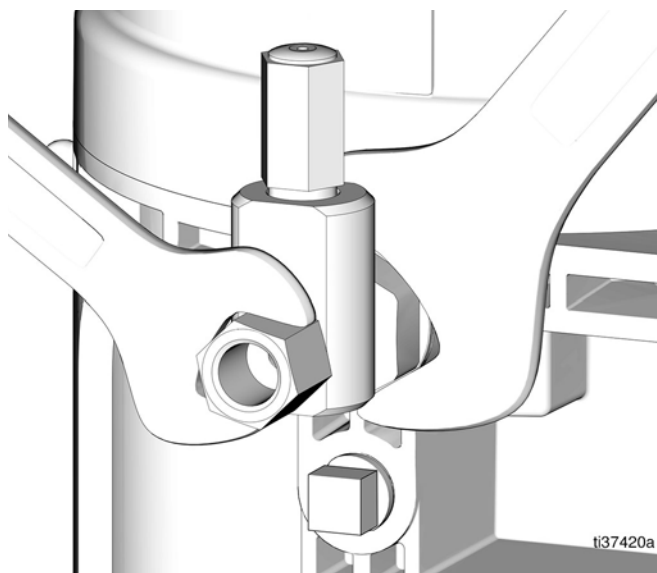

FIG. 15
- Always use two wrenches working in opposite directions when connecting anything to pump element or auxiliary fittings. See FIG. 15 for an example.